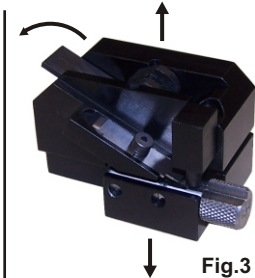

Fig.3
2. Open the tool by first rotating the locking lever to the left side of the tool and manually open the top and bottom tool bodies. This will open the tool an additional and necessary 1/16" - 1/8" (1.5 - 3.0mm). (Fig.3)